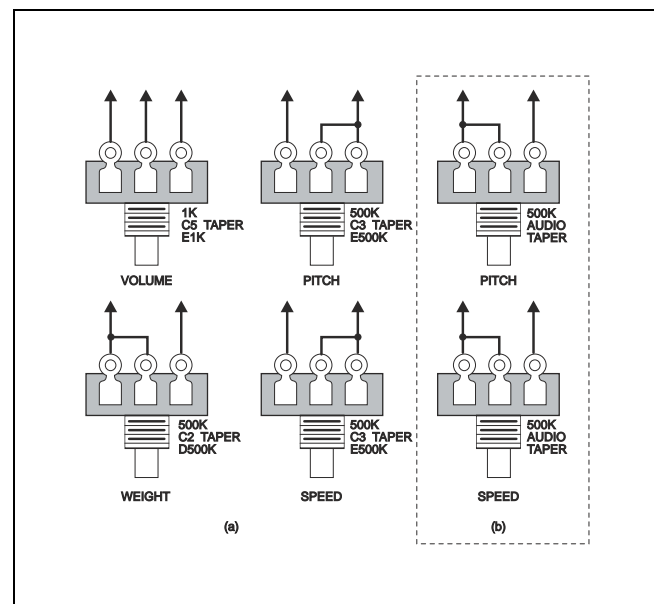

Fig. 18. Control wiring.
If you find the correct controls you will wire them as shown in figure 18(a). If you use audio taper (righthand log taper) potentiometers for speed and pitch, wire them as in figure 18(b). But, remember for this trick to work you must reverse the usual sense of the controls.
In other words, turning the speed control clockwise must slow code speed down and turning the pitch control clockwise must result in lower pitch. This is the opposite of what you will obtain with the proper (reverse log taper) controls wired as shown in figure 18(a).
- (1) We use C5A and C5B in parallel to obtain near the 0.15 μ F value. This value is not always easily found.
- (2) There are cheaper and more appropriate header strips available but Mouser does not stock them. Clip to make 11-pin header for P2 and 3-pin header for S2. Using a header makes a neater job but you may wire directly to the PCB.
- (3) This potentiometer is an audio taper unit. Reverse taper units are difficult to find. Connect for reverse rotation as shown in figure 18(b). (Connect between two "SPD" pins on PCB.)
- (4) Clip three pins from the same strip as P2 is cut from.
- (5) Just use a clipping from one of the resistors to make this jumper.
- (6) Just a suggestion. Plan your own to make sure it fits.
- (7) Build the PCB into a metal cabinet. Use an RCA type jack for the output to the transmitter. Use shielded cable as short as practicable for the paddle and transmitter connection.